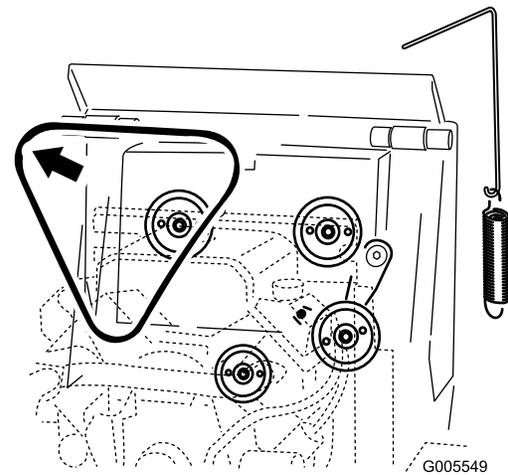

Figure 52
5. Remove the belt from the 3 pulleys (Figure 52).